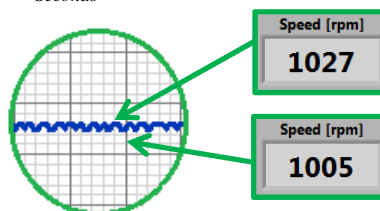

Fig. 42 – Measure of the oscillations
- 5) Measure the oscillation N_{osc} occurring in $X_{Seconds}$ as shown in fig 42 (X can be chosen at random).